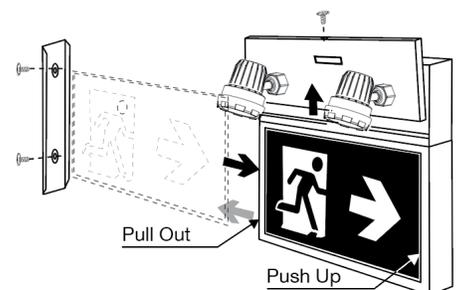

Fig. 1
2. Access fixture wiring compartment by unscrewing the side cover and unscrewing the screw on the top cover that the LED heads are mounted to (Fig.1).
3. Determine which pictograms will be used (Fig. 1).